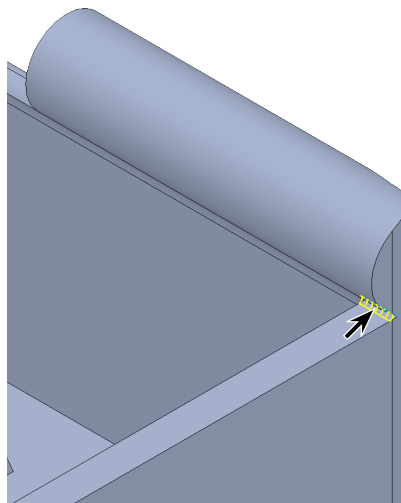

Fig. 126
⑨ **Radius**  .15
click edge at side and hinge - both hinges (2), Fig. 126